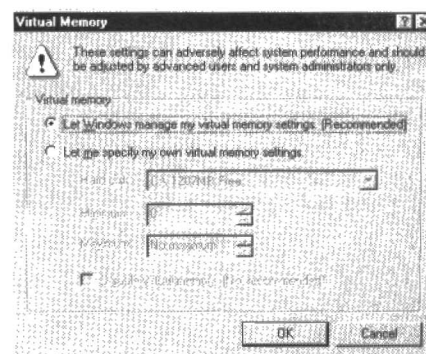

Figure 10. The Virtual Memory dialog box.
3. Within the System Properties sheet, click your mouse on the Performance tab. Windows 98 will display the Performance sheet. Within the Performance sheet, click your mouse on the Virtual Memory button. Windows 98 will display the Virtual Memory dialog box, as shown in **Figure 10**.